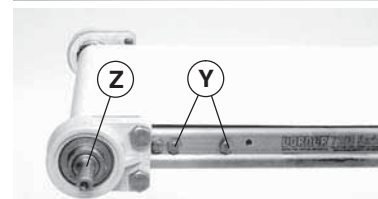

Figure 3
1. Remove screws (Figure 3, item Y) from both sides of conveyor.